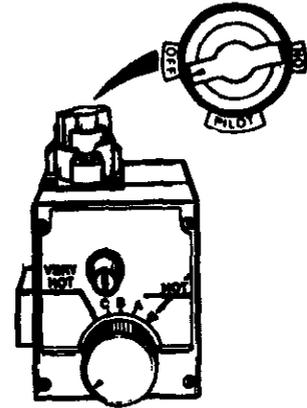
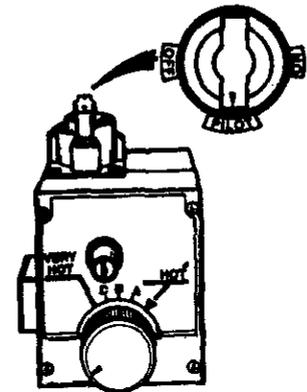
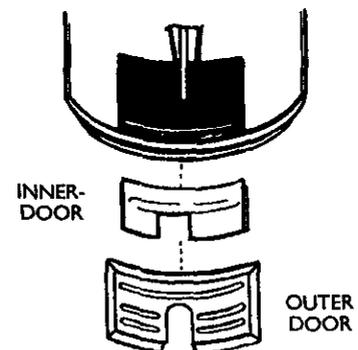

Figure 5
Figure 6
Figure 8
4. Turn gas control knob clockwise (↻) to "OFF" position. Knob cannot be turned from "PILOT" to "OFF" unless knob is depressed slightly. **DO NOT FORCE.** (Figure 5, page 19)
5. Wait five (5) minutes to clear out any gas. If you then smell gas, **STOP!** Follow "B" in the safety information above on this label. If you don't smell gas, go to the next step.
6. Remove (or open) inner door located below the gas control unit. (Figure 8, page 19)
8. If you don't smell gas, turn knob on gas control counter clockwise (↺) to "PILOT" position. (Figure 6, page 19)
9. Push in control knob all the way and hold down. Immediately light the pilot with a match. Continue to hold control knob in for about one (1) minute after the pilot is lit. Release knob and it will pop back up. Pilot should remain lit. If it goes out, repeat steps 3 through 8.
- If the pilot will not stay lit after several tries, depress and turn the gas control knob clockwise (↻) to "OFF" and call your service technician or gas supplier. (Figure 5, page 19)
10. Replace (or close) inner door. Replace outer door if door does not cover gas control on/off knob or temperature adjustment knob. (Figure 8, page 19)
2. Turn gas control knob clockwise (↻) to "OFF" position. Knob cannot be turned from "PILOT" to "OFF" unless knob is depressed slightly. **DO NOT FORCE.** (Figure 5)